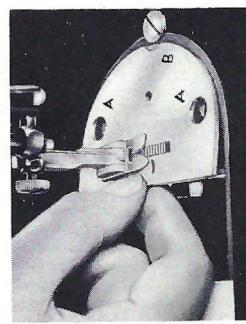

Fig. 5
- Lift up needle plate (Fig. 5) and move it to the left, thus freeing it from its locating screws "A".